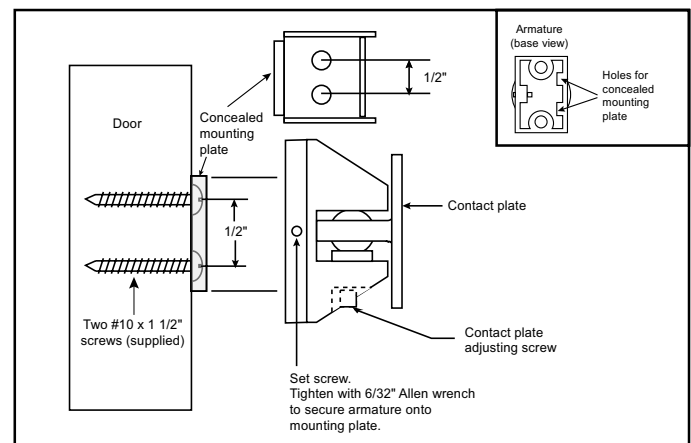

Figure 6. Surface Concealed Mounting (Cat. Series EM 504 shown)
- Surface concealed mounting (Figure 6).** Measure two points for 1/8" holes drilled 1/2" on center equidistant from each marked point. Center punch the holes and drill 1/8" diameter x 1 1/4" deep. Install the concealed mounting plate using the two #10 x 1 1/2" screws provided.